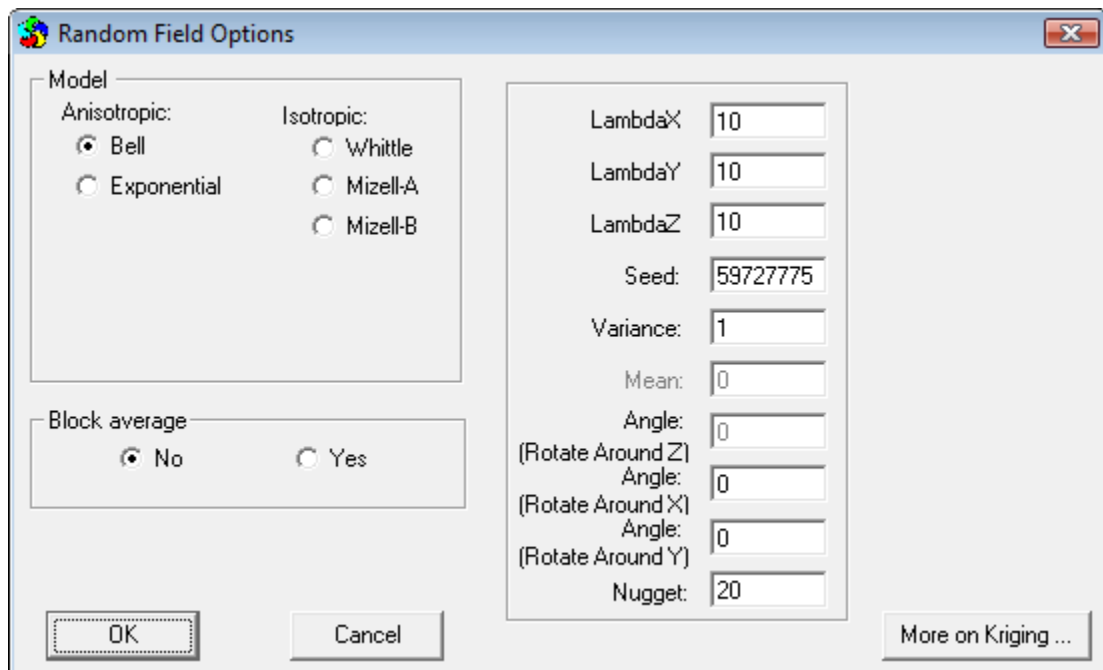

Figure 18-6 Random Field Options window
- In the ‘Variogram Model’ area, if ‘User specified’ button is checked and then the ‘Options’ button is clicked, the ‘Random Field Options’ window (**Figure 18-6**) will appear. Here the user can manually specify statistical parameters.